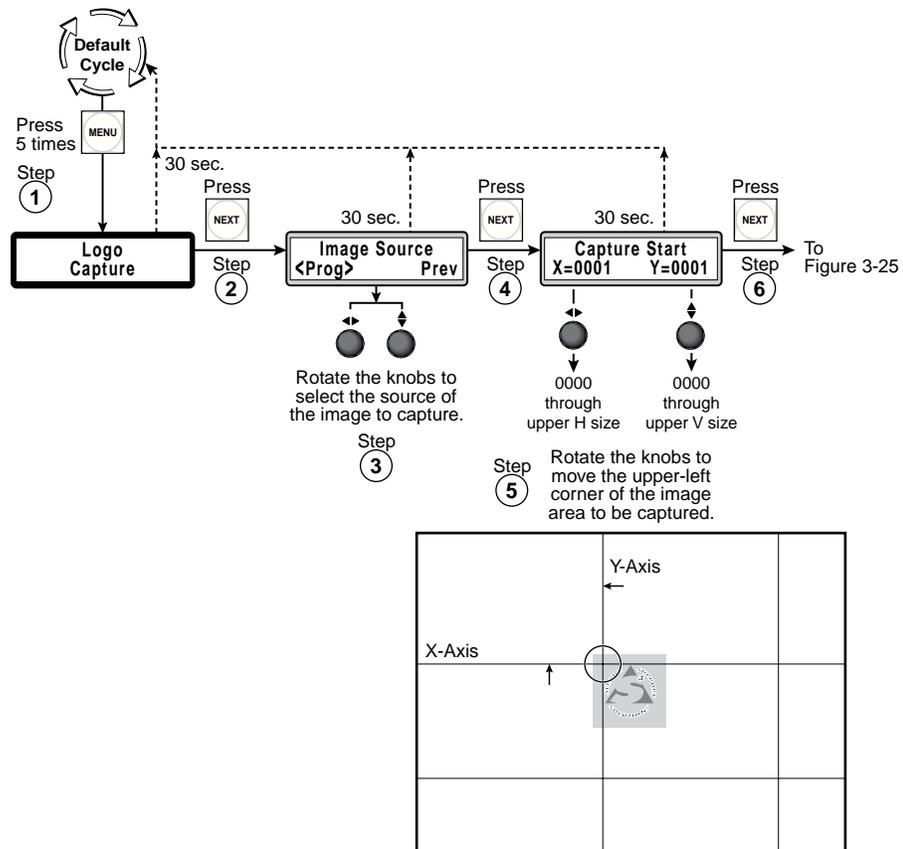

Figure 3-24 — Capturing a logo
1. Press the Menu button until the LCD window displays the Logo Capture Menu (figure 3-24).